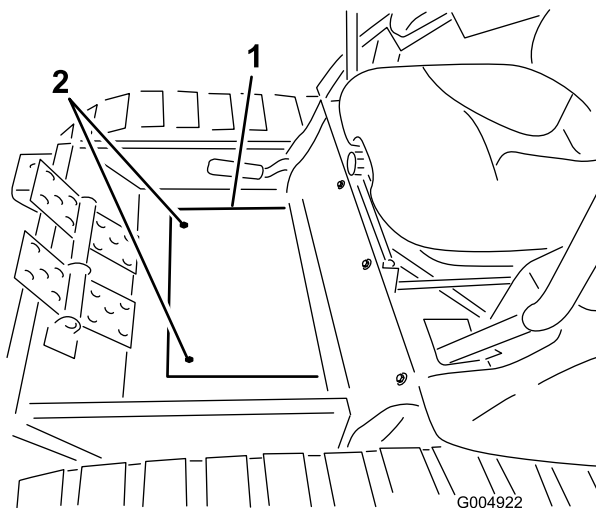

Figure 106
17. Remove the two screws securing the winter frame floor plate cover to the floor and remove the plate (Figure 106).